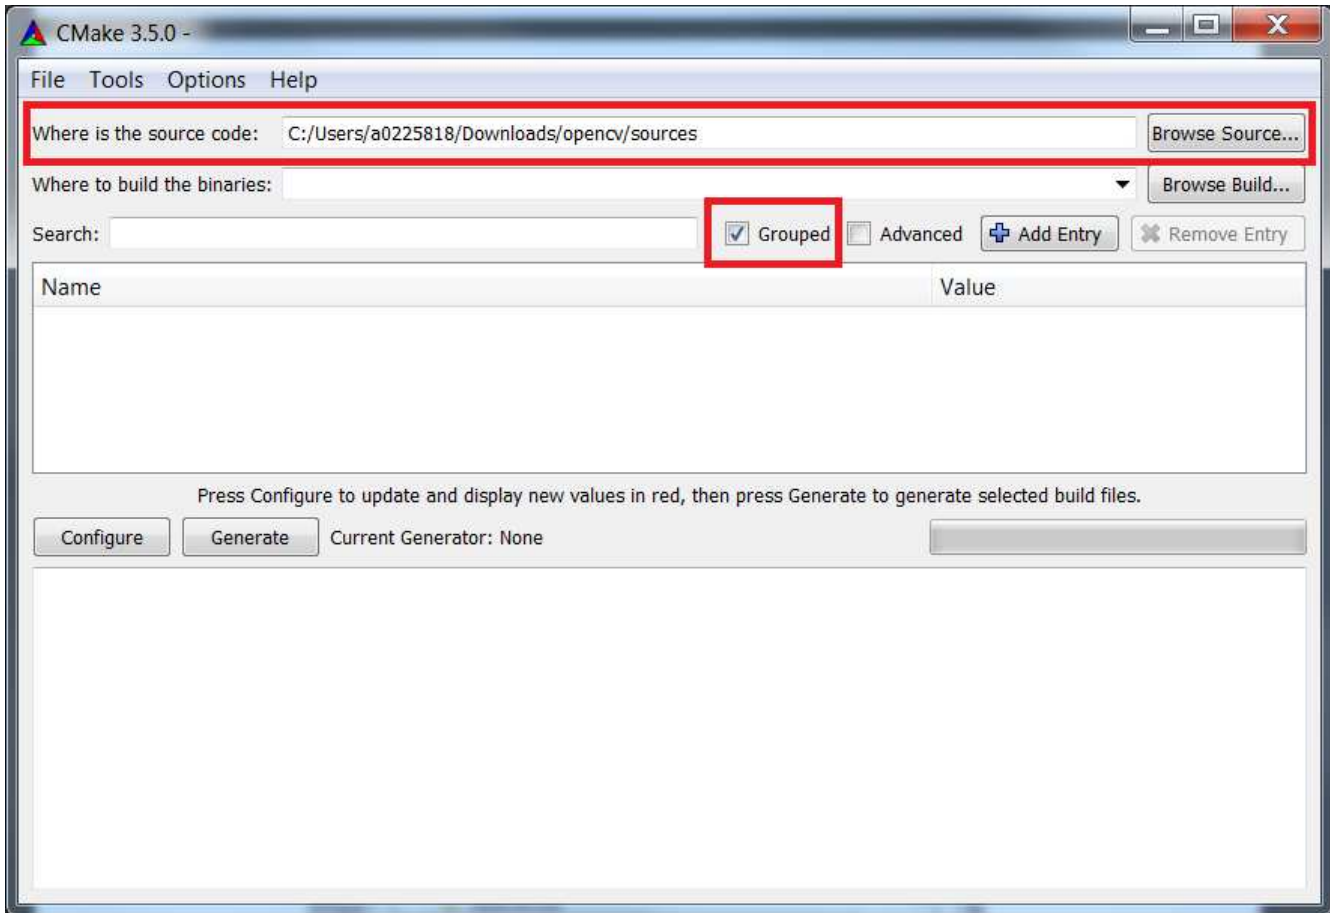

Figure 25. Set Source Path
5. Check the “Grouped” box and browse for the path of the OpenCV source files. The path should be of the form C:/Users/<username>/Downloads/opencv/sources as shown in Figure 25.